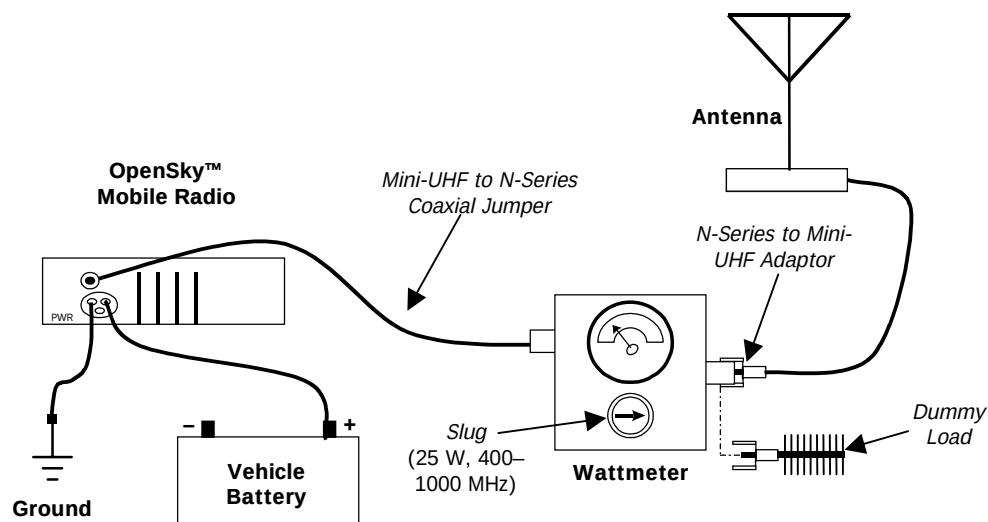

Figure 2—Wattmeter Connection
1. Connect the wattmeter to the radio for testing according to Figure 2 , using the dummy load in place of the antenna.	The dummy load connects to the output side of the wattmeter, in place of the antenna cable (see Figure 2).
1. Connect the wattmeter to the radio and antenna for testing according to Figure 2 .	Remove the dummy load, if necessary, and connect the antenna lead to the output side of the wattmeter (see Figure 2).